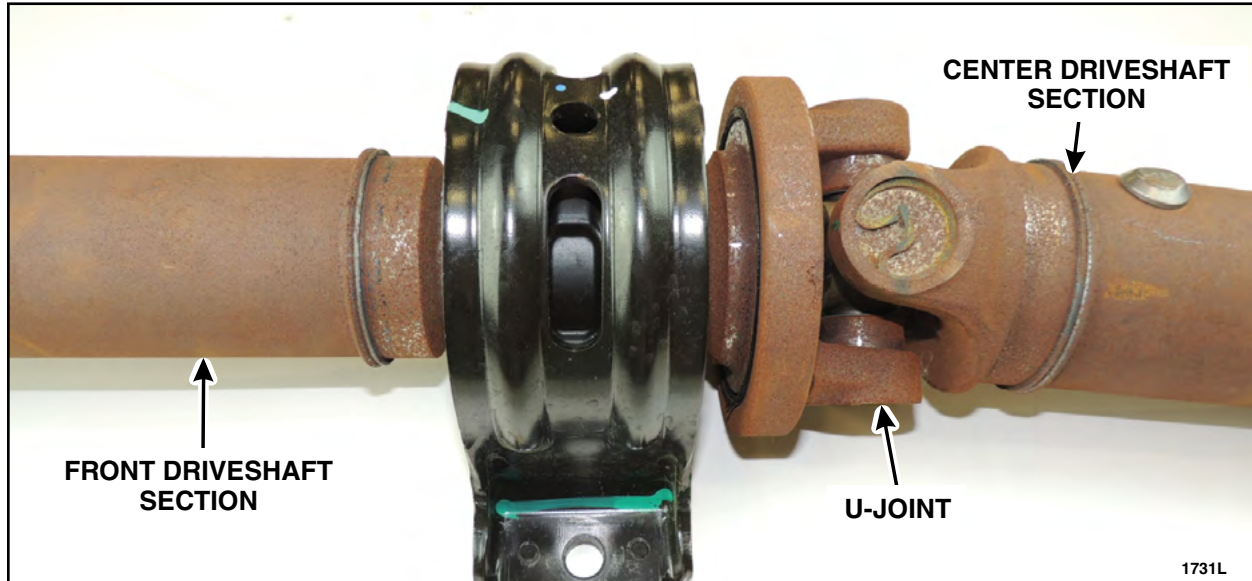

FIGURE 13
1. Remove and discard the four snap rings and center u-joint to separate the front driveshaft section from the center section. Please follow the Universal Joint Kit Installation Instructions. See Figure 13.